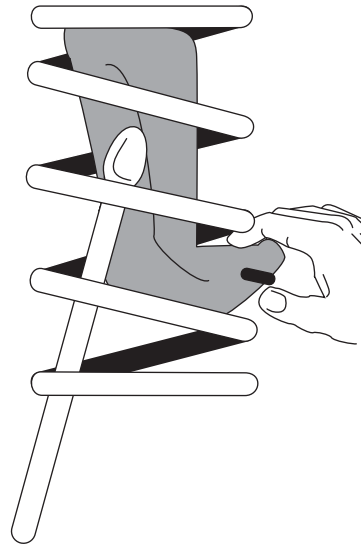

fig. 6
- Insert the flattened air spring (A) into the coil spring through the lowest opening with the stem at the bottom. (Fig. 6)